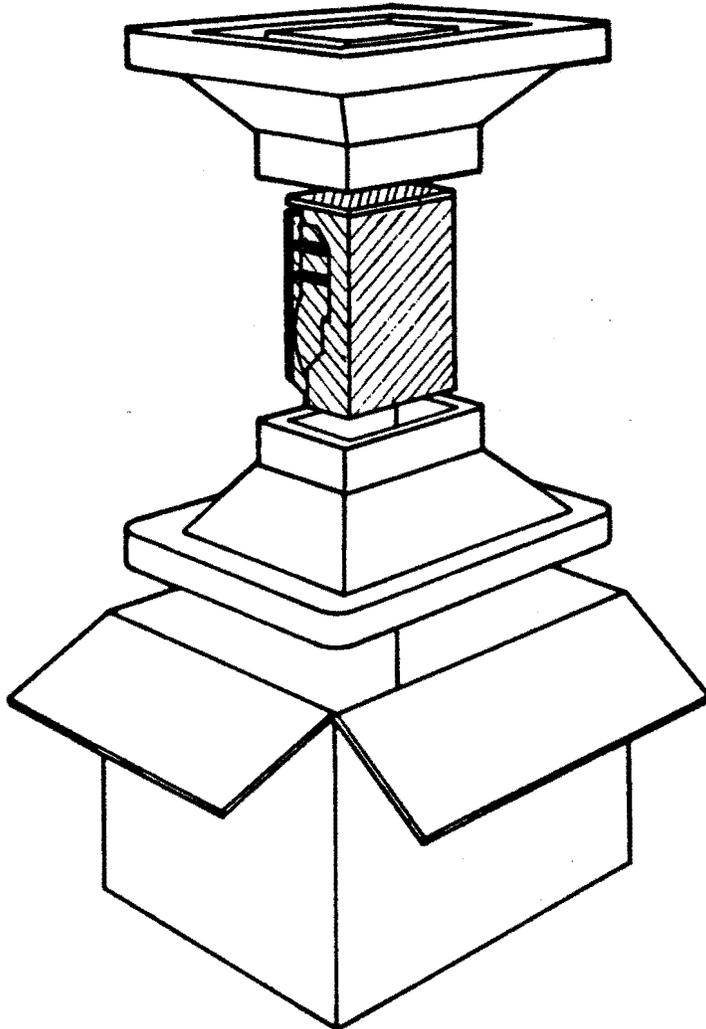

Figure 6-14: RD52 Shipping Container
5. Pack the removed drive in its special shipping case (Figure 6-14).